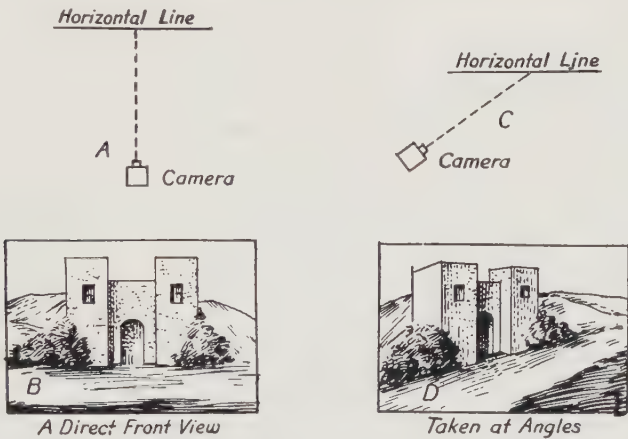

FIG. 49. HOW TO GET LINEAR PERSPECTIVE
There are two other things for you to remember when you are taking a landscape, especially if there is a road or a building in it, and that is (1) not to take a direct front view of it as shown by *A* in *Fig. 49*, or your pic-